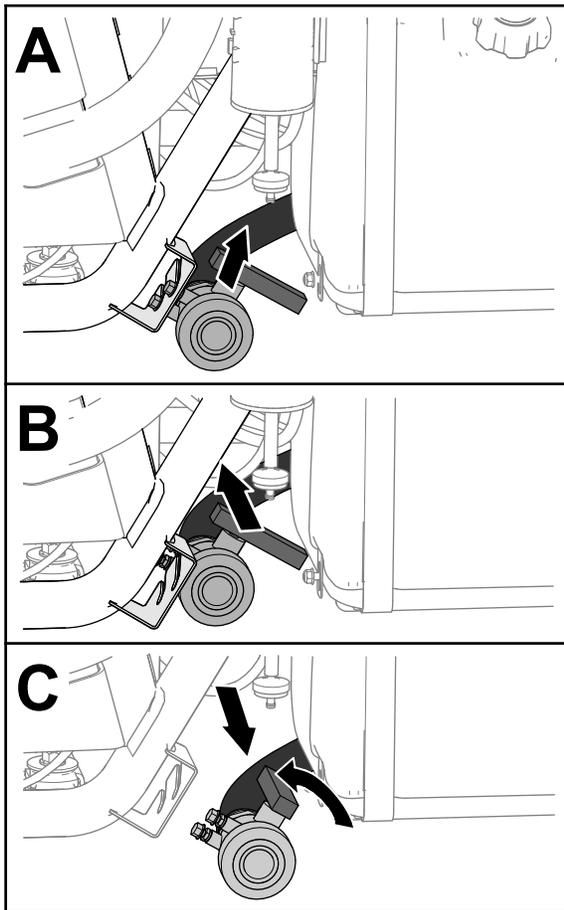

Figure 28
2. Locate the tank-drain valve at the left side of the machine, forward of the fuel tank (Figure 28).
3. Lift the valve and move it inboard until the mount studs of the valve clear the slots in the drain-valve bracket, and move the valve rearward (Figure 28).
4. Align the end of the valve with the drain container and rotate valve handle counterclockwise to the open position (Figure 28).
5. When the tank has drained completely, rotate the drain-valve handle to the closed position and assemble the valve onto the drain-valve bracket (Figure 28).